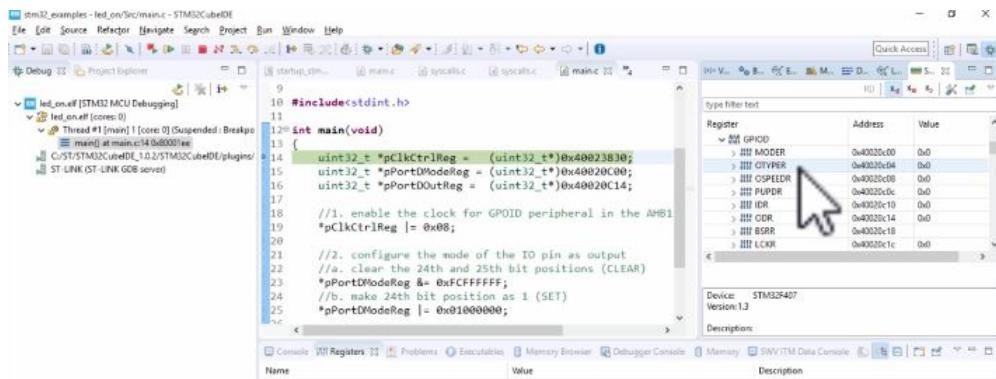

Figure 3.43: Tracking registers in real time
2. From the tab menu, we go to **Window** --> **Show View** --> **SFR**. A new window will appear at the right containing the registers as shown in Figure 3.43